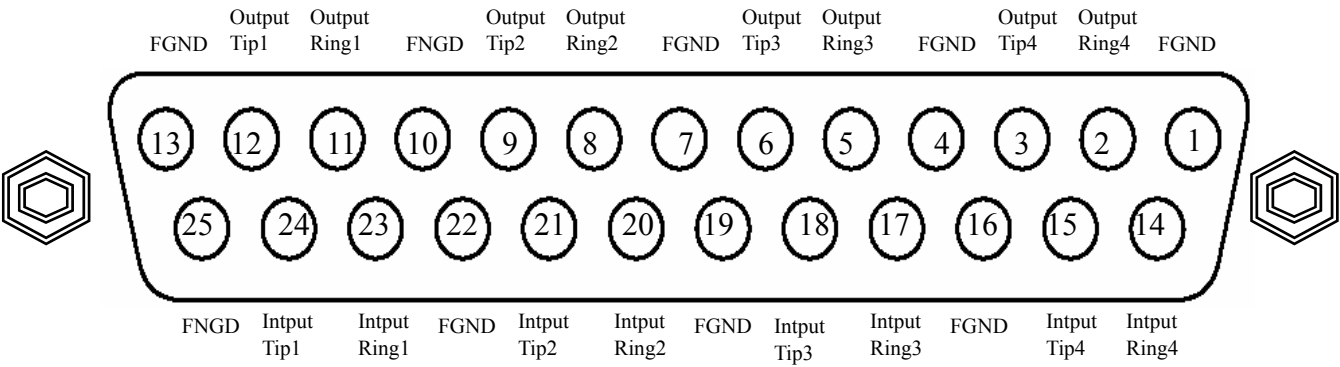
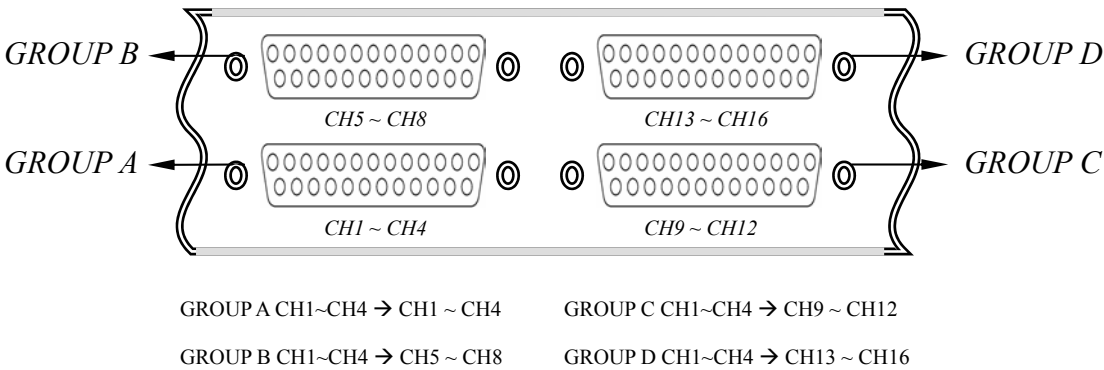

Fig.7 DB-25 connector and 4 E1 tributaries
Fig.8 DB-25 connectors and 16 E1 tributaries
- 3.4 FOM16 consists of 16 E1 tributaries, i.e. CH1 ~ CH16. Each E1 tributary uses 4 pins, i.e. Input Tip/Ring and Output Tip/Ring. Each rear DB-25 connector contains a 4-E1-tributary group, that is, there are 16 pins designated for 4 E1 tributaries and 9 pins for frame ground (FGND). The pin assignments are shown in the Fig.7 and Fig.8.